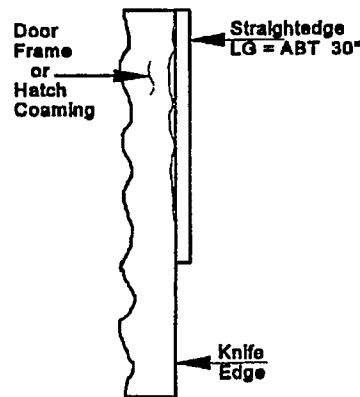
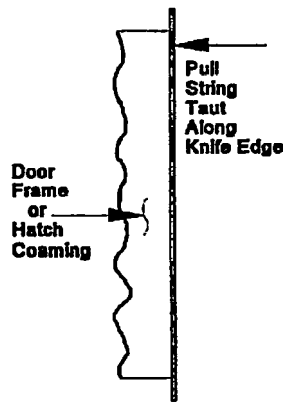
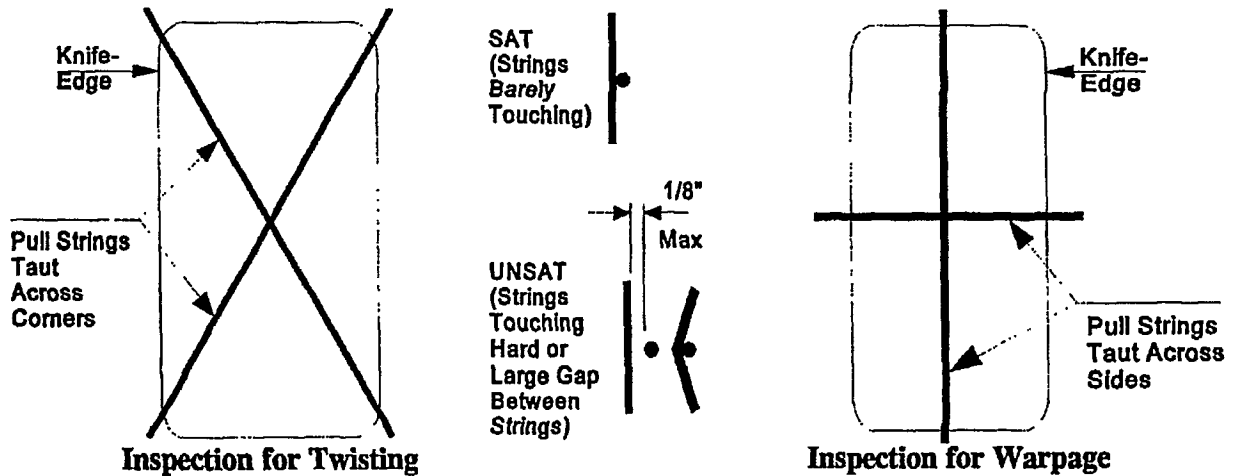

Figure 600-2.34. Knife-Edge Inspection Using Straightedge Method
Figure 600-2.35. Knife-Edge Inspection Using String Method
Figure 600-2.36. Knife-Edge Inspection for Warpage
- a. Open the fitting. Inspect the knife-edge for straightness and/or warpage using a straightedge and two lengths of string. See figure 600-2.34, figure 600-2.35, and figure 600-2.36. The maximum acceptable variation for knife-edge straightness is plus or minus 1/16 inch. The maximum acceptable warpage of the door frame is 1/8 inch. If frame/coaming warpage is excessive, or if the knife-edge straightness is not within tolerances, initiate action to replace the closure.